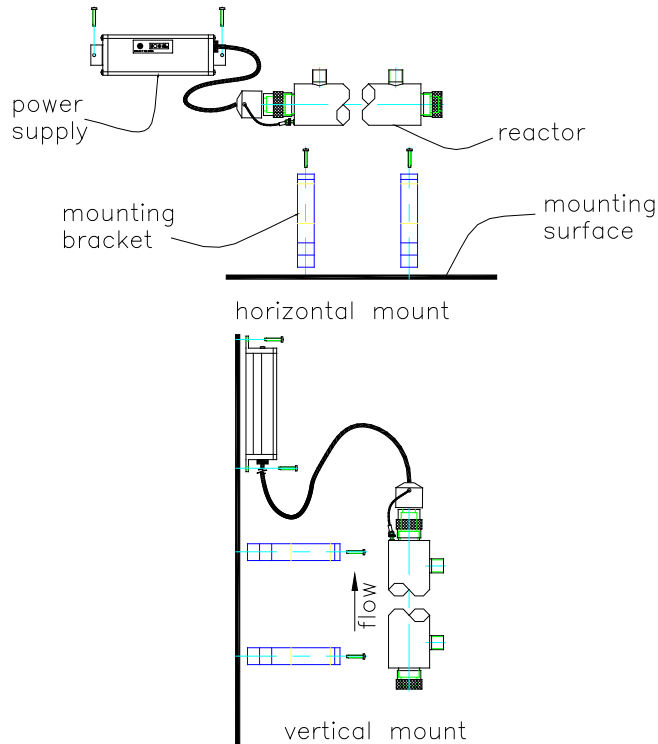

Figure 2.
4. The unit must be installed so that the inlet and outlet ports are accessible. If mounted vertically the lamp connection must be at the highest point. This will assure that any dripping condensation or possible leaks will not migrate to the lamp harness or electrical connections. See figure 2.
5. If mounted vertically, the water inlet port must be the lowest port. This allows air to escape the housing, and ensures proper flow past the UV lamp. If the system mounted horizontally, either port can be used as the feed port. See figure 2.